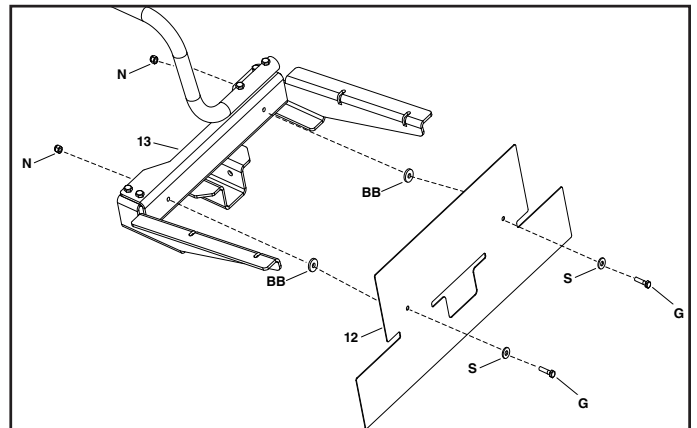

FIGURE 10
STEP 10: (SEE FIGURE 10)
- Install two hex bolts (G) through two washers (S) then through the rear deflector (12). Then install two nylon washers (BB) onto the hex bolts (G) on the other side of the rear deflector (12).
- Then place the rear deflector (12) against the hopper mount bracket (13) and install the two hex bolts (G) from prior step into the hopper mount bracket (13).
- On the other side of the hopper mount bracket (13) secure two nylock hex nuts (N) to the two hex bolts (G) and then tighten hardware.